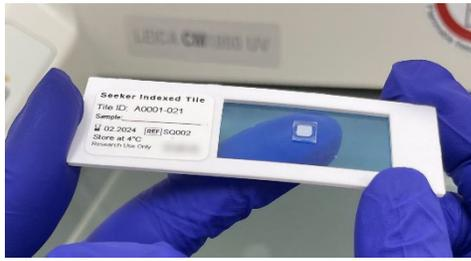

Figure 6. Example of precise tissue placement on the Seeker tile.
- iii. With the tile and tissue section facing up, melt the tissue section onto the tile by moving the tile off the cryostat stage, and GENTLY placing a finger on the bottom of the slide glass, as shown in Figure 6.